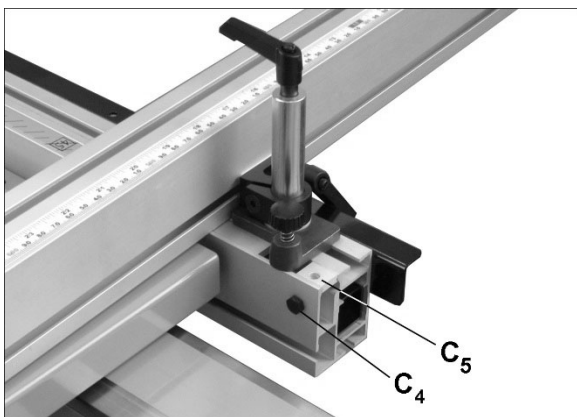

Figure 8-10
6. Loosen screw (C₄, Figure 8-10) and slide rear stop block (C₅) until index pin can engage its hole.